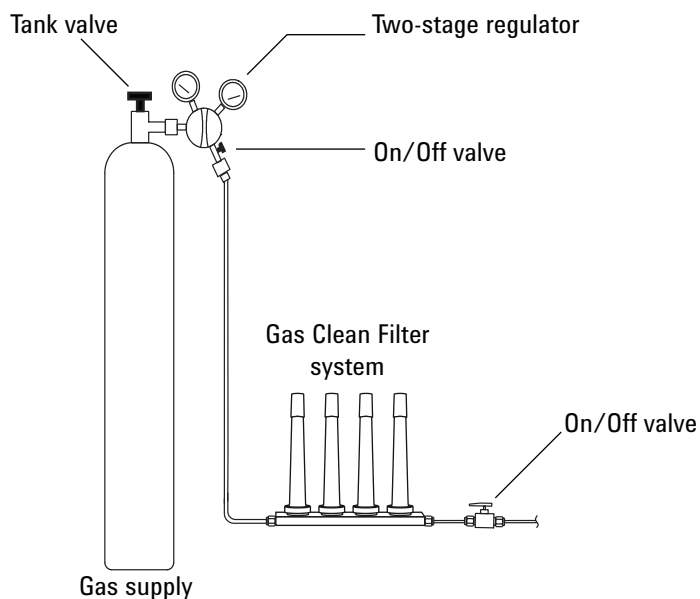

Figure 6 Plumbing the gas supplies
- 1 Determine where you will install the traps in your supply tubing line. Figure 6 shows the recommended trap order for the carrier gas and the recommended locations for On/Off valves. See also the Site Preparation Guide.